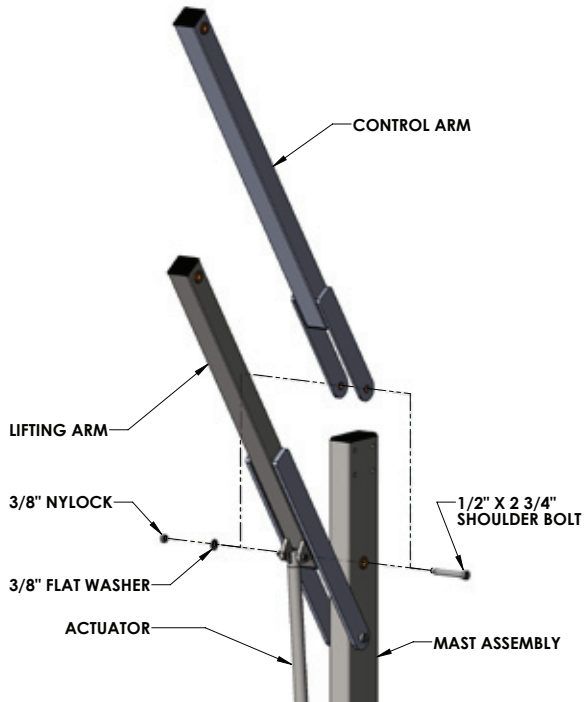

FIGURE 6
5. Connect the control arm to the mast using the 1/2 inch shoulder bolt and 3/8 inch nylock and flat washer, as shown in FIGURE 6. Careful not to scratch the control arm on the lifting arm while attaching.